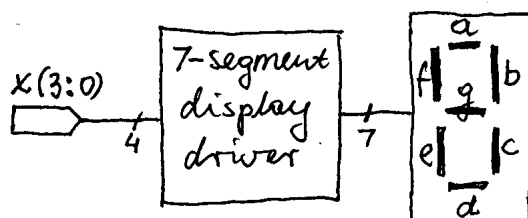

Figure 1: A 7-segment display with the driver
- The seven-segment display **driver circuit** converts a binary-coded-decimal (BCD) digit, $x(3 : 0)$, into seven binary signals (a, b, c, d, e, f, g) that drive (highlight) respective segments of the display, as shown in Figure 1.